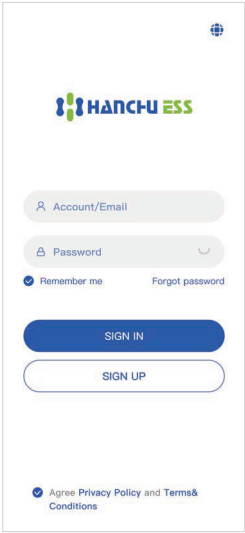

Fig. 1
①. Registering and login
- If you have already registered, you can log in directly . Then you can turn to "② Bind devices".
- If you don't have an account yet, tap"**Sign up**" to register as shown in Fig. 1.